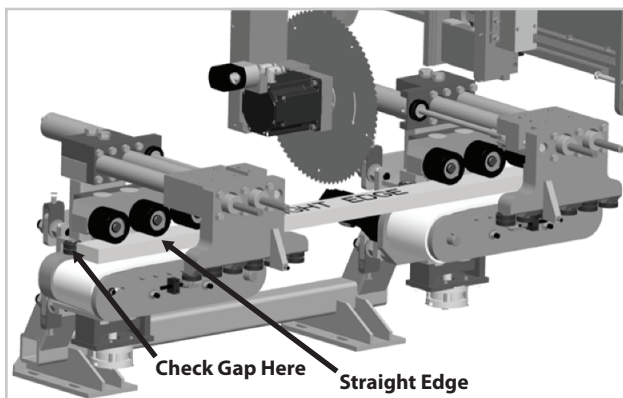

Figure 61
Step 1 – Use a straight edge (aluminum bar is recommended) on the belt and against the back fence, as shown in Figure 61. There should be no more than 0.010" (.25mm) gap between the straight edge and back fence rollers or belt.